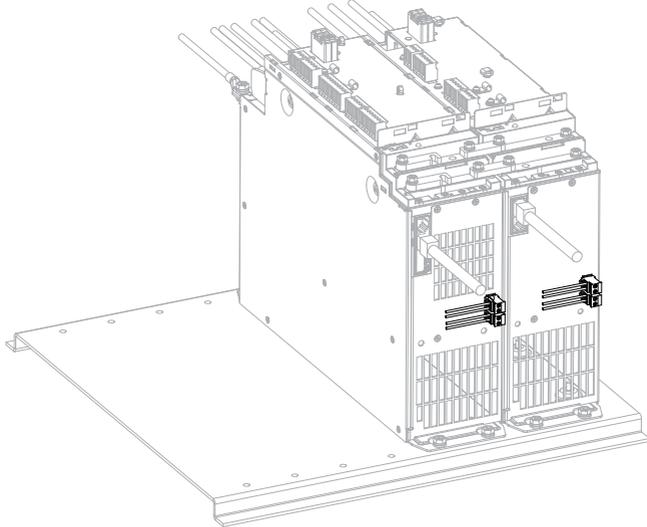

Figure 3-13 Connecting the input cable of the external 24 V power supply
4. Connect the control cable. The connection figure is similar to that of the booksized unit. For details, see "Figure 3-13 Connecting the control cable" on page 48.
6. Connect the control cable. The connection figure is similar to that of the booksize unit. For details, see "Figure 3-13 Connecting the control cable" on page 48.